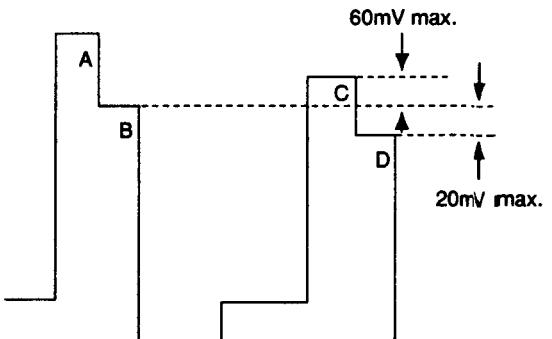

Fig. 5-32
- 2) Connect the probe of an oscilloscope to IC404 ⑪ PIN or TP401.
- 4) Adjust **[R-Y LEVEL SECAM]** so that the peaks of waveforms will be flush with each other as shown in Fig.5-32.